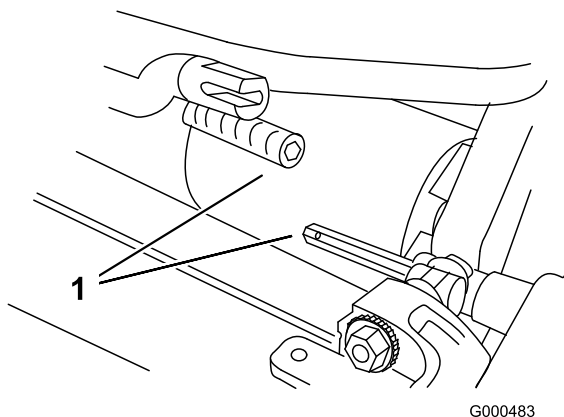

Figure 46
6. Pull cutting unit forward about 2 inch (51 mm) and then to the right to disengage the transmission coupling (Figure 46).